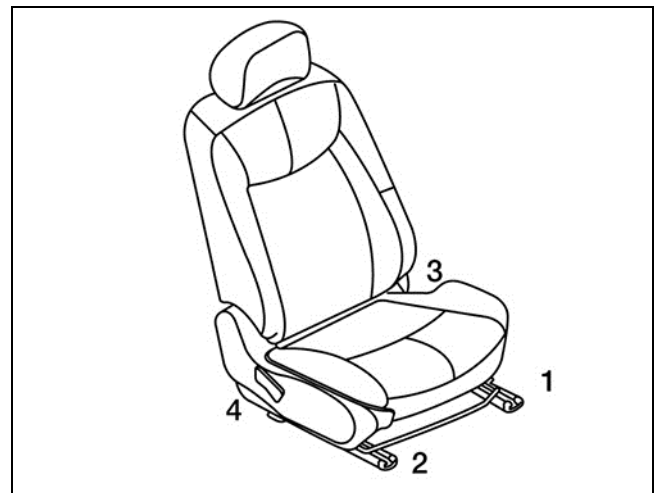

Figure 14
19. Install all four Torx seat track bolts and torque them in the pattern shown in Figure 14.